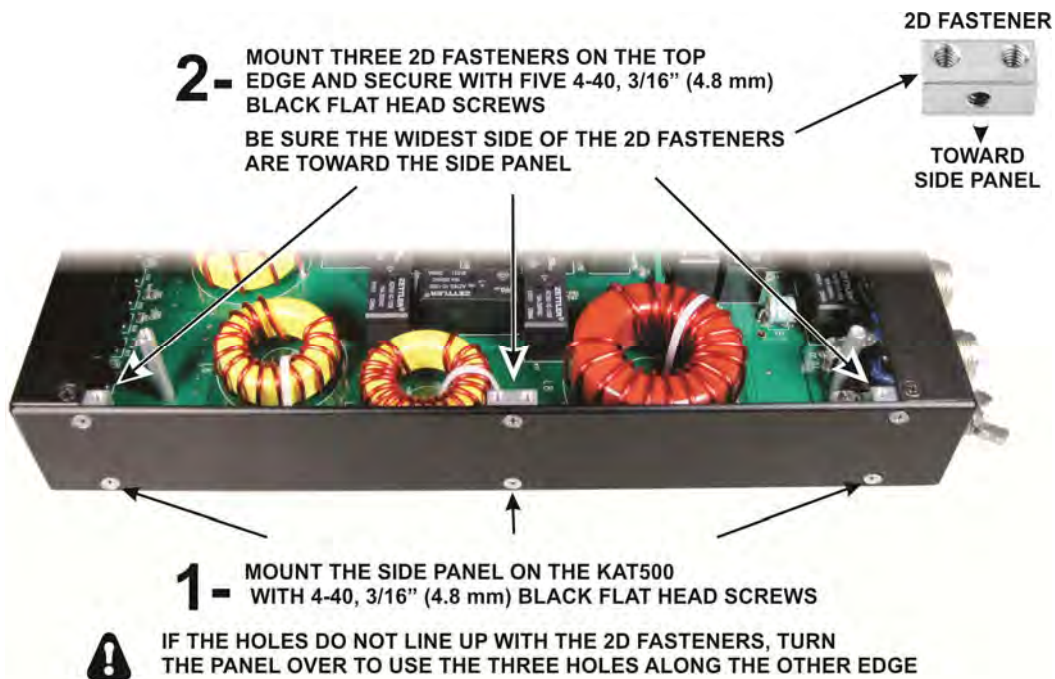

Figure 34. Installing the Side Panels.
Place a side panel on the KAT500, lining up the three holes along the bottom with the 2D fasteners between the pc board and the bottom cover. Be sure all three holes line up. If they do not line up, turn the side panel over to line up the other three holes. Attach the side panel with three screws as shown in Figure 34 (1).
Mount three 2D fasteners along the top edge of the side pane as shown in Figure 34 (2). Be sure the widest side is toward the side panel as shown. You may need to loosen the screws along the bottom edge to allow the panel to move to properly align the holes.